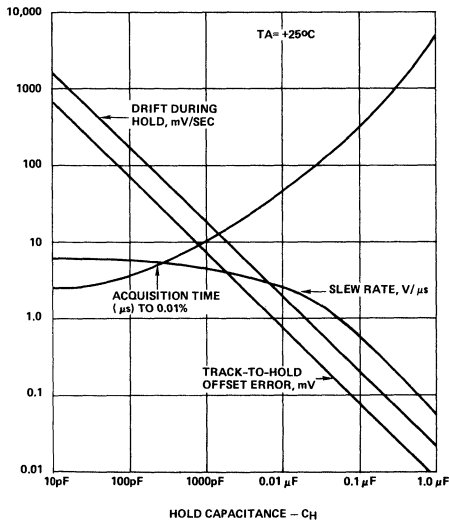
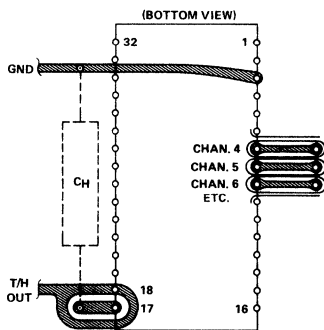

FIGURE 3
FIGURE 5
When a multiplexer is continuously cycled from channel to channel, two other forms of crosstalk arise. These are dynamic crosstalk and adjacent* channel crosstalk, which are both minimized along with static crosstalk by careful attention to circuit board layout. A strip of ground plane should separate conductors for adjacent channels on a printed circuit board. See Fig. 5. Make these traces (and the conductors) short, and as narrow as practical for maximum separation.
- B. The holding capacitor C_H is the only essential external component required for operation of the HI-5900. The value selected determines droop rate, offset error and acquisition time according to curves shown in Fig. 3. Board layout should include a guard ring to prevent voltage-driven leakage at the capacitor terminal. See Fig. 5.